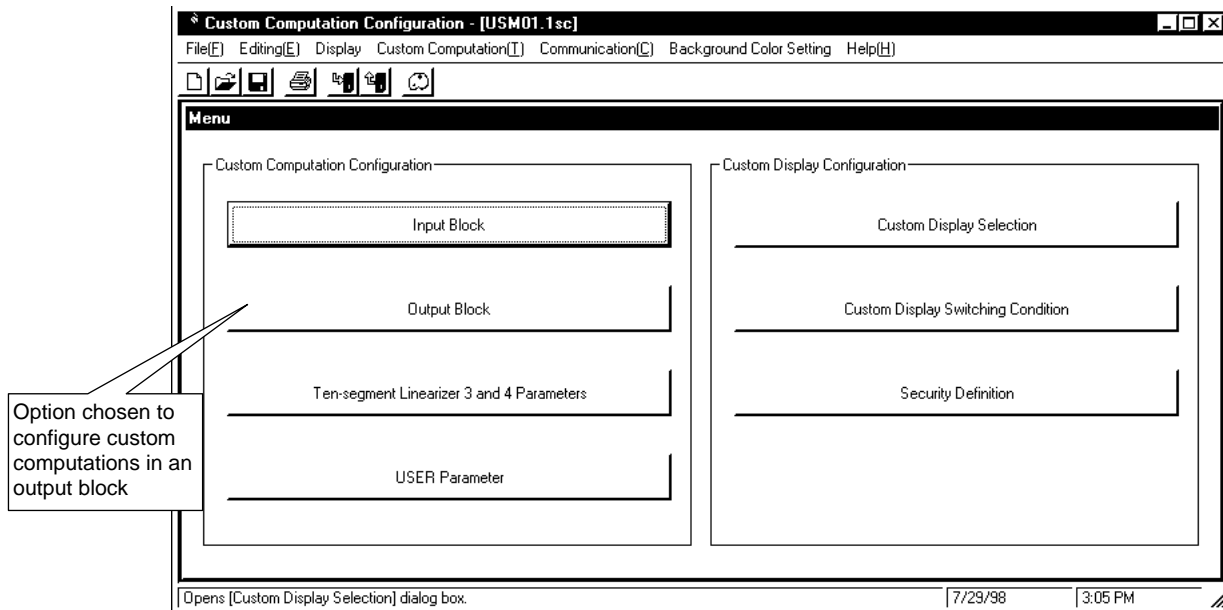
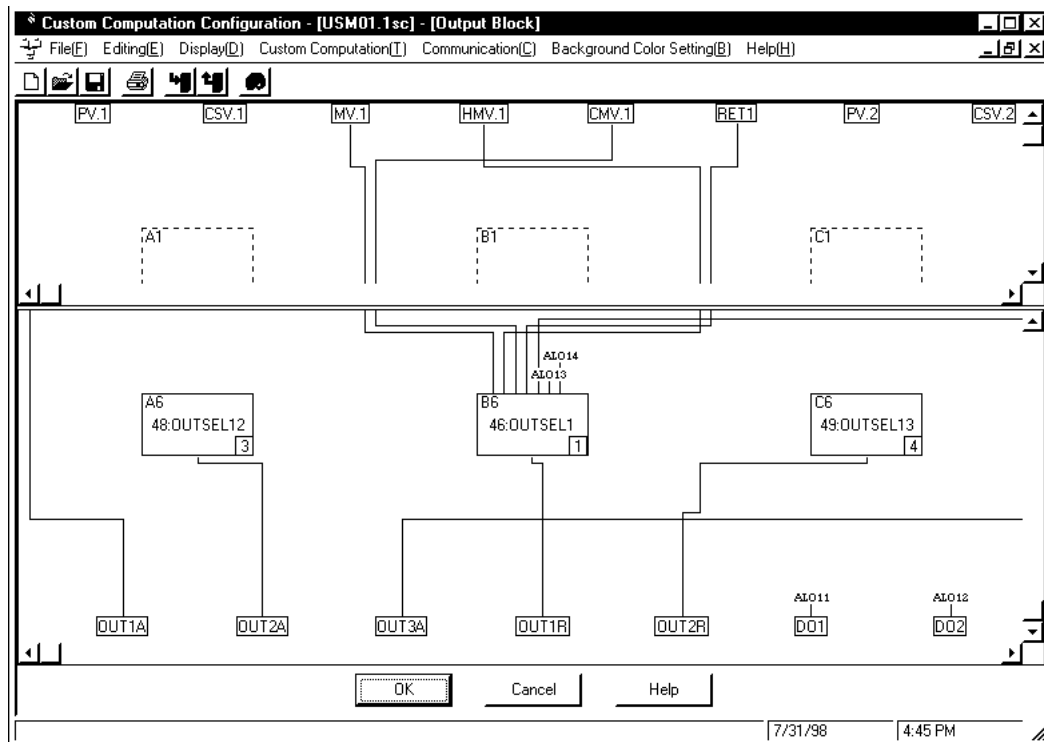

Figure 4.3.2 [Custom Computation Configuration Menu] Dialog Box
Figure 4.3.4 [Output Block] Dialog Box for Single-loop Control
Figure 4.3.2 shows the [Custom Computation Configuration Menu] dialog box used to configure custom computations.
- ① In the [Custom Computation Configuration Menu] dialog box (Figure 4.3.2), click the <Output Block> button. The [Output Block] dialog box appears. Figure 4.3.4 illustrates the [Output Block] dialog box for single-loop control.